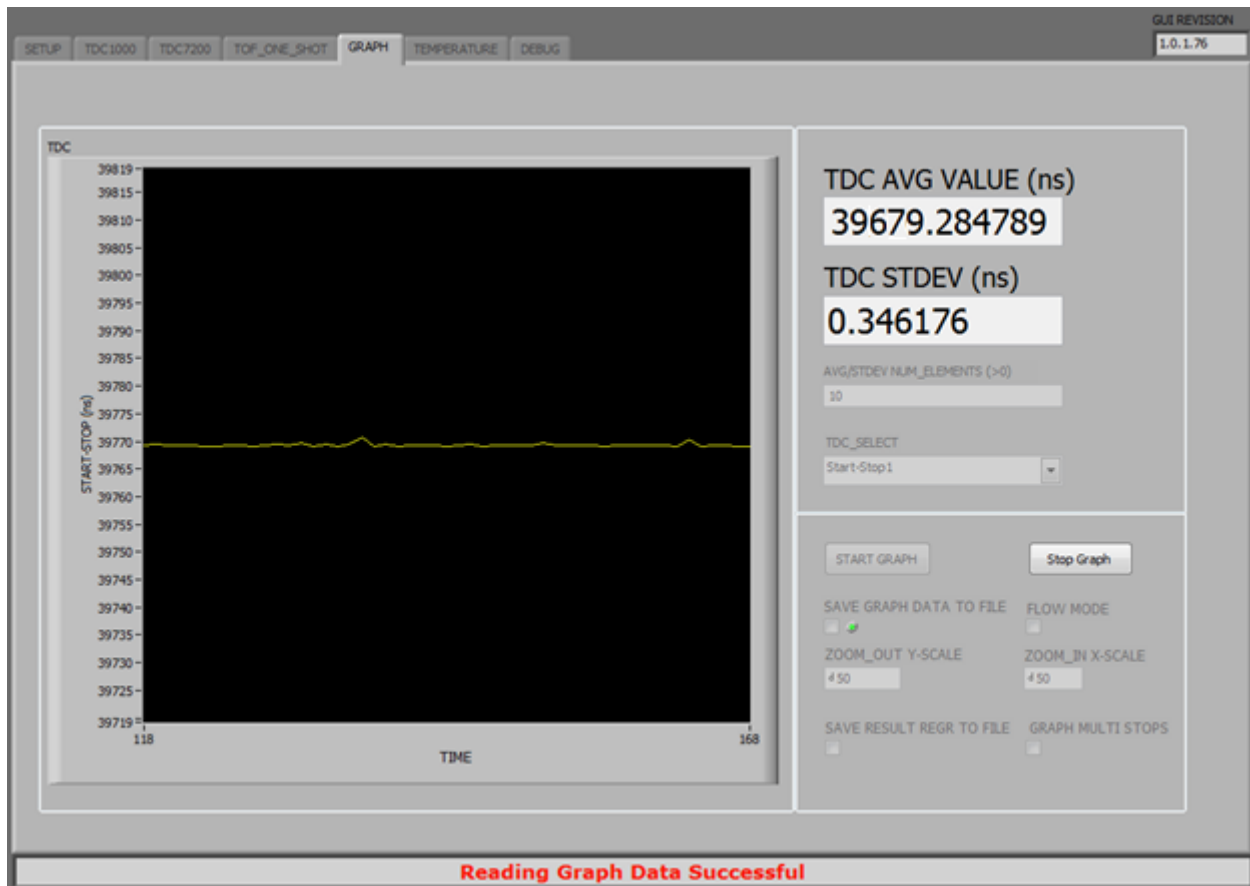

Figure 5-3. Plot of TOF of Water in Test Cell
3. Go to the GRAPH tab on the TDC1000-7200EVM GUI and click START GRAPH. The time of flight (TOF) displays in the TDC AVG VALUE window (see Figure 5-3). Note: the default settings work correctly for the test cell provided.